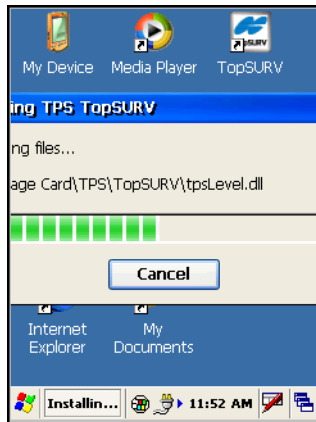

Figure 1-14. Copy TopSURV Files to Controller
16. Click **OK** to this message after the progress bar on the controller screen (Figure 1-14) disappears.